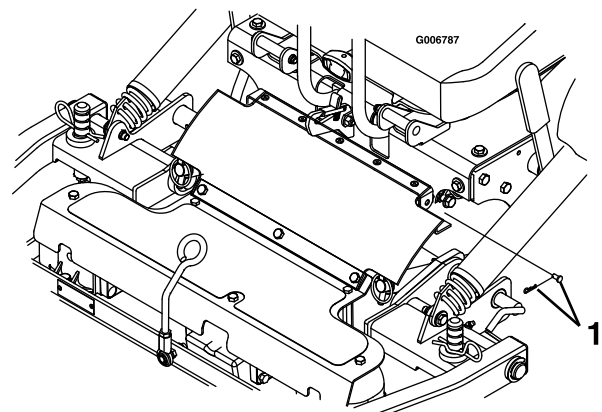

Figure 71
7. Remove the hairpin cotter and clevis pin from both sides of the PTO guard (Figure 71).
6. Align the upper portion of the rubber PTO guard to the tabs on the front of the console and secure with a clevis pin and hairpin cotter on each side (Figure 71).